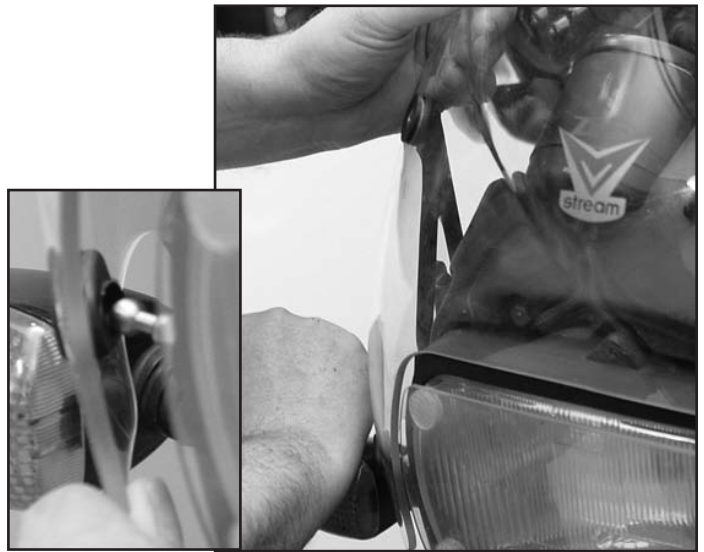

Figure 8
2. Place windshield on Brackets. Align Ball Socket on windshield with Ball Stud. With the side of your hand, give a firm tap (from the outside of the windshield) to seat the ball stud into the socket. Be certain the ball is fully seated in socket. **Figure 8**